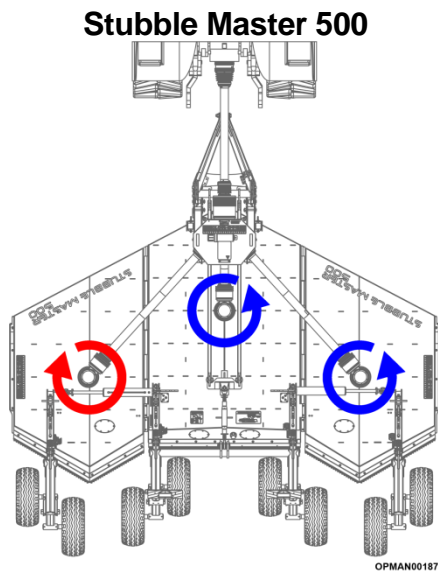

Figure 1.6
In order to create a consistent and quality cut and through-flow of material through and out of the machine, Stubble Master machines have anti-clockwise and clockwise rotating rotors which are in turn fitted with left-hand (LH) and right-hand (RH) blades. The rotation direction of each of the rotors is stated in Figure 1.6 for the Stubble Master 500 and Figure 1.7 for the Stubble Master 730.